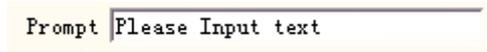

Figure 4-47-a Keyboard element parameter
The keyboard element is the text which must process from the keyboard entry by the user, when select the keyboard element, a dialog box as Figure 4-47-a shows will be displayed to ask for the user set the keyboard element parameter.
**Prompt:** In the processing, the system will spring the input dialog box which ask for the user input the processing text when meets the keyboard variable text, like the figure 4-47-b shows, this time the user direct by-hand input the text.
The keyboard element function uses frequently in this kind of situation when the processing needs the real-time input to the processing content. If the customer present need processes one batch of work pieces, on each work piece is printed with a bar code, when processing needs the user with the bar code scanning gun real-time scans the work piece to read the content on the bar code, then with laser to mark to the work piece assigns in the position, at this time can use the keyboard element function. At the processing time system springs like the figure 4-47-b shows the dialog box, the operator with the bar code scanning gun scanning bar code work piece on, the bar code scanning gun inputs the read content to the dialog box inside and closes it automatically, then the system will start to process the content read a moment ago automatically .